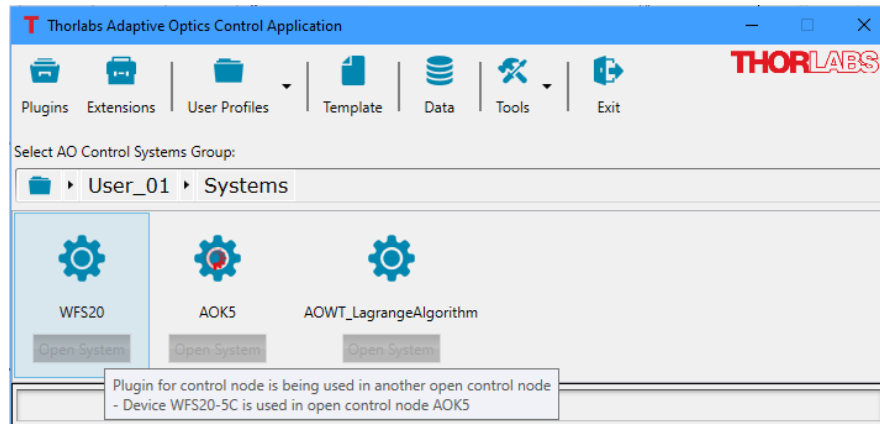
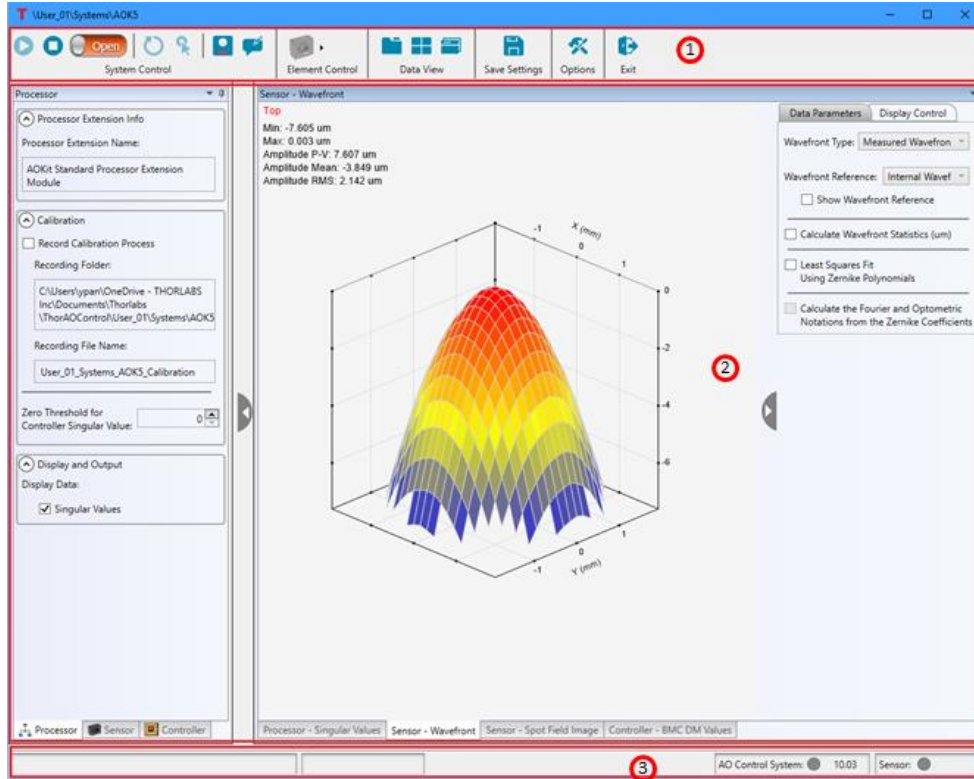

Figure 91 The Main Window Showing a Running Control System
Figure 92 Control System Window Regions
Clicking the **Open System** button under the selected control system icon (⚙️) from the main window will bring up a Control System window. The clicked **Open System** button is disabled and overlaid with a running red circular progress bar (for example, see control system AOK5 in Figure 92). Some other **Open System** buttons may be disabled too, if the control system shares the devices with the running control system AOK5. For example, hovering the cursor over control system WFS20, a popup shows “**Device WFS20-5C is used in open control node AOK5**”, as seen in Figure 91.
The Control System window contains three (3) sections, which are common to all user defined systems. The specific content will vary between systems. See Figure 92. The three sections are: 1) Toolbar/Controls, 2) Elements parameters and element data display, and 3) Status area.